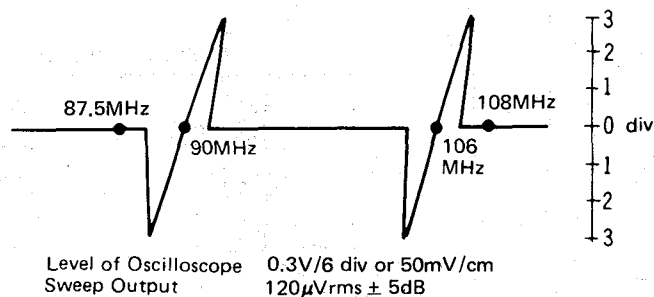

Fig. 27
3. Adjust L1002 to set **90MHz** marker to the center of slanted line as shown in Fig. 27.
5. Adjust FC1 of P.V.C. trimmer to set **106MHz** marker to the center of slanted line as shown in Fig. 27.
11. Repeat step 7 — 10 several times to obtain the maximum amplitude at both **90MHz** and **106MHz** marker as in Fig. 27.